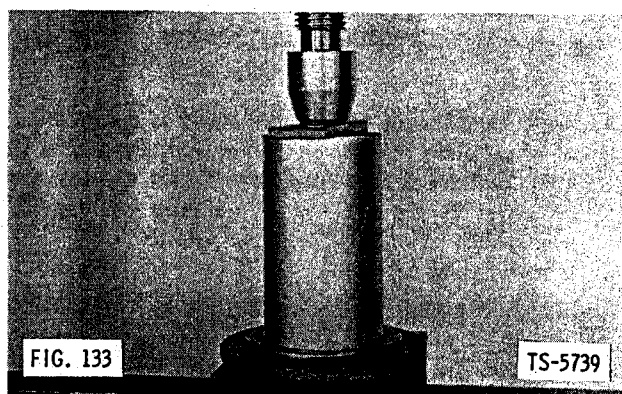
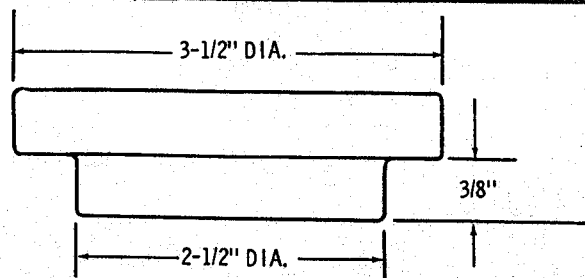

FIG. 133
FIG. 134 1/32" RADIUS ALL CORNERS TS-8430
1. Press seal into axle shaft bearing retainer (Fig. 133), using driver with dimensions shown in Fig. 134. Lip must face upward when retainer is positioned as shown. Coat lips with Lubriplate.